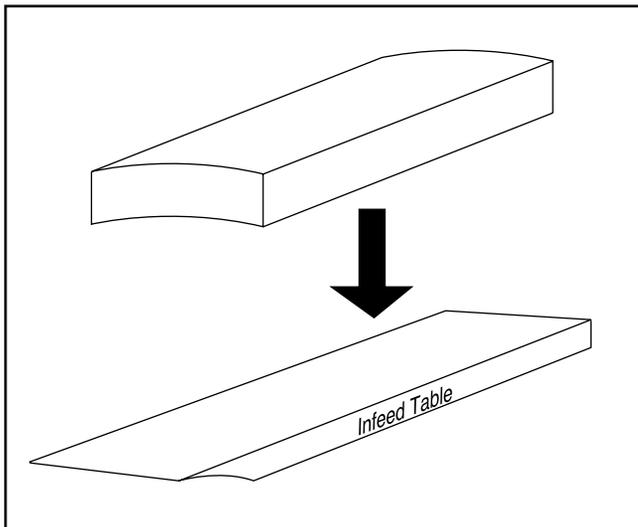

Figure 26. Correct method for surface planing.
2. If the stock is cupped (warped), place the concave side down and slowly feed it through the cutterhead. See **Figure 26**.